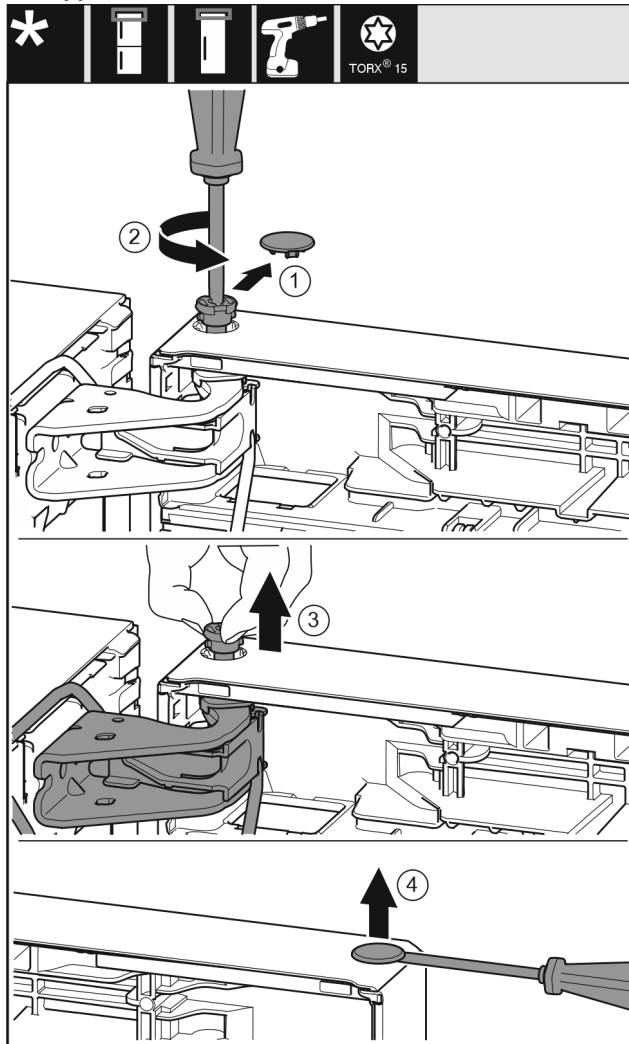

Fig. 22
- ▶ Carefully remove the protective cover. Fig. 22 (1)
- ▶ Undo the bolt a little with a T15 screwdriver. Fig. 22 (2)
- ▶ Hold the door and remove the bolts with your fingers. Fig. 22 (3)
- ▶ Carefully lift the plugs out of the door bearing bush with a slotted screwdriver and pull them out. Fig. 22 (4)